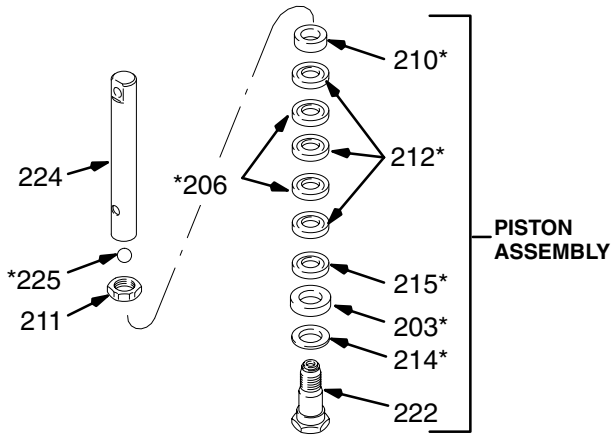

Fig. 25
7. Clamp the flats of the piston rod in a vise. Loosen the retaining nut (211). Unscrew the piston valve (222) from the rod. Remove all parts from the piston valve (222). See. Fig 25.
1. Check the outside of the piston rod (224) and the inside of the sleeve (218) for scoring or scratches. If these parts are damaged, new packings will not seal properly. Replace these parts if needed.
2. Stack the backup washer (214), seal (203\*), female gland (215\*), alternate packings (212\*,206\*), and then male gland (210\*) onto the piston valve (222). See Fig. 25.
3. Tighten the packing retaining nut (211) against the piston valve (222) to 10.5 in-lb (1.24 N.m).